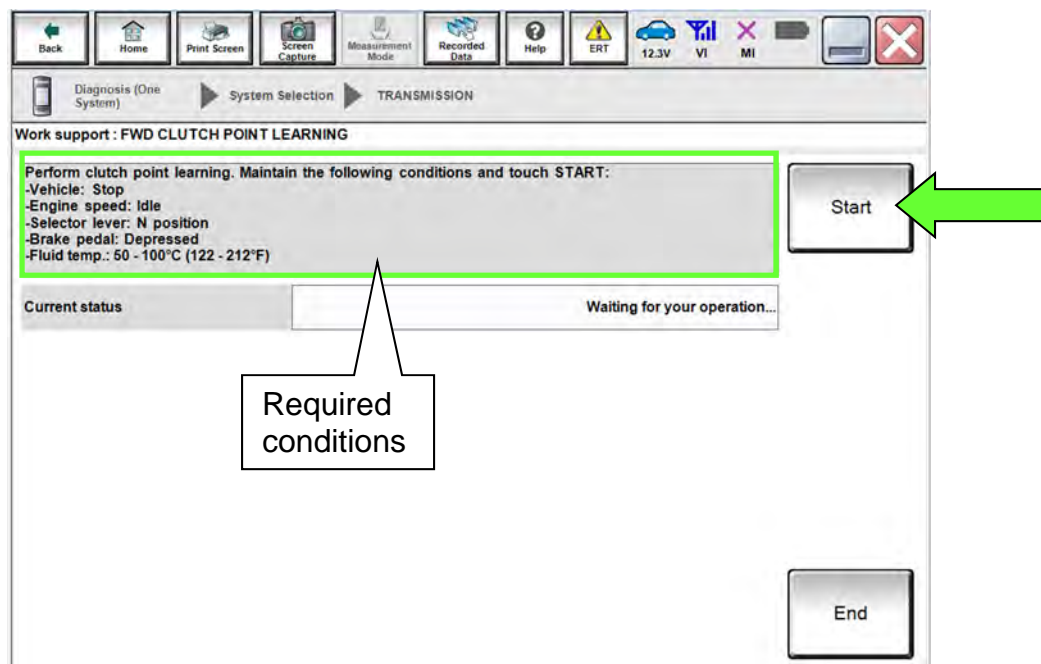

Figure 202
- Confirm that all of the required conditions indicated in Figure 202 are being met.
190. While maintaining all conditions shown in Figure 202 and the “Current status” indicates “EXECUTING”, shift the CVT into **D** and then wait until the “Current status” indicates “COMPLETED”.